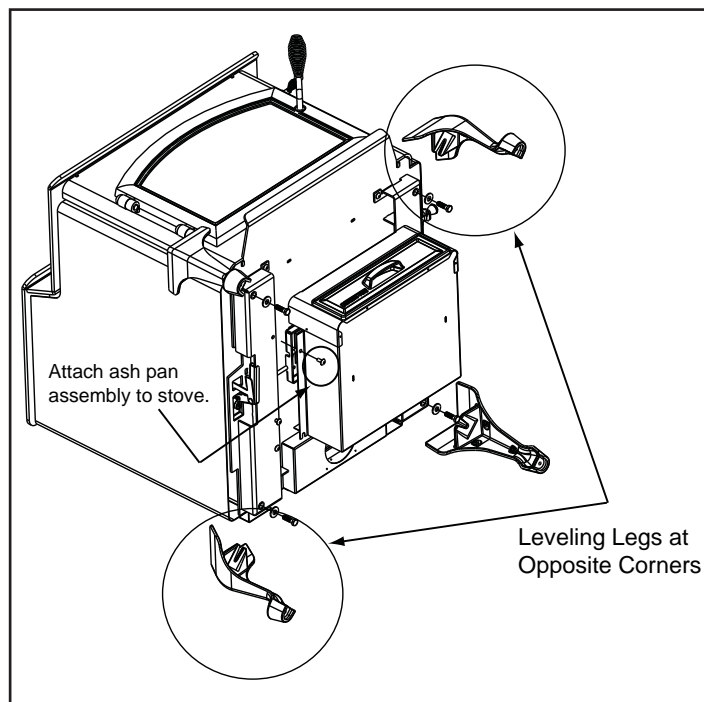

Figure 19.2
3. Slide the ash pan assembly bottom slots over the screw heads. This allows the weight of the ash pan to rest on the screws while you are attaching the top 2 screws. Once the ash pan is attached, tighten all screws. **Figure 19.2**.
3. Loosely assemble bolts into the corner of the mounting brackets for leg attachment. **Figure 19.2**.
4. Slide legs onto mounting brackets. Making sure the legs are up against the bracket and secure with bolts supplied. There are leveling bolts in 2 legs. These leveling legs should be in opposite corners. **Figure 19.2**.